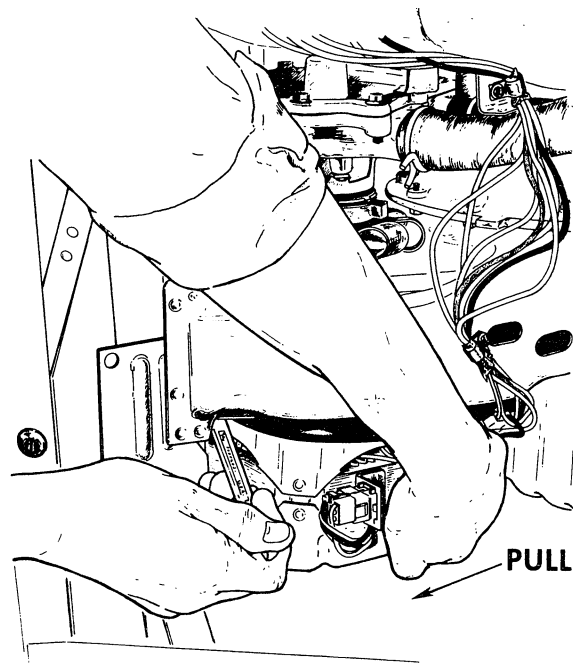

Figure 13
4. Pull on motor with one hand and tighten outside mounting nut as shown in Figure 13.
5. Pull on motor with one hand and tighten outside mounting nut as shown in Fig. 13.